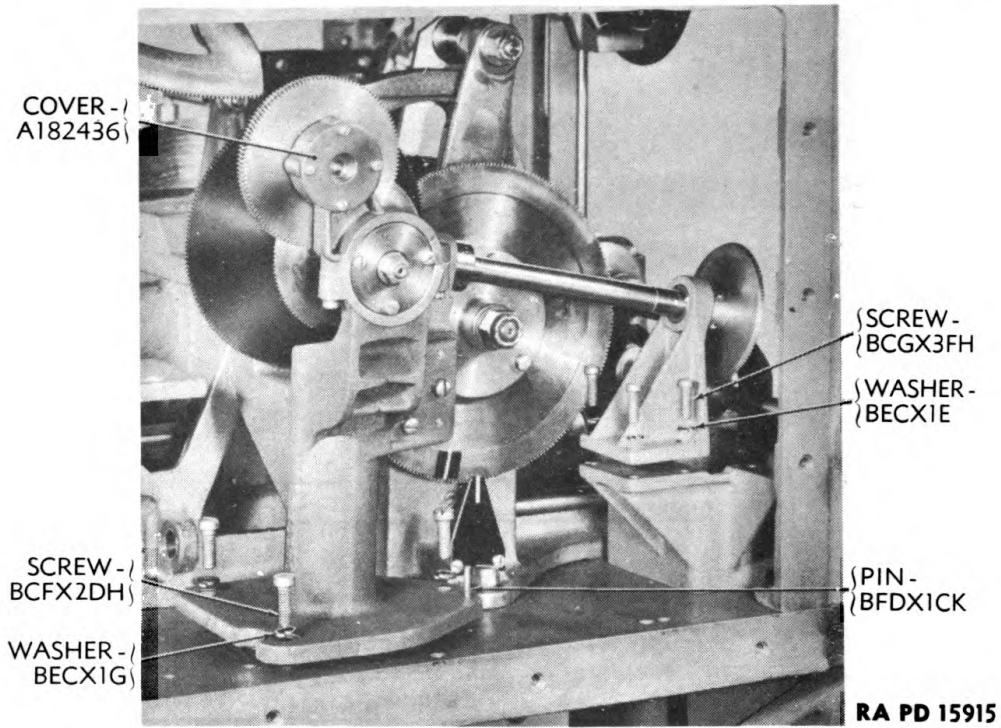

Figure 143 – Removing Quadrant Elevation Mechanism, With Inclined Shaft Attached
b. Remove the four screws which hold the lower bracket of the inclined shaft assembly to the drive shaft assembly (fig. 143). Drive the dowel pin up and remove the three screws which hold the quadrant elevation mechanism in the base; lift up the mechanism, with the inclined shaft, and tilt it forward to clear the gears. If any prying is necessary, be careful not to damage the bottom surface of the casting.